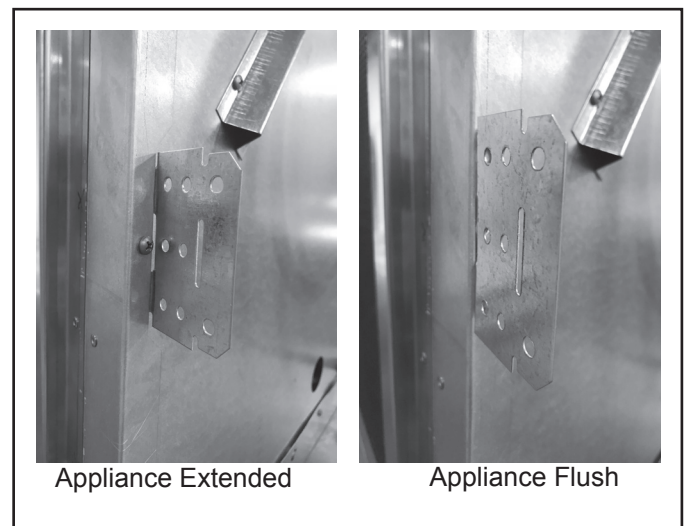

Figure 4.2 Nailing Tab Orientation
**Note:** Nailing tabs are positioned so that when the appliance is installed the face of the appliance will extend approximately 1/2 inch beyond framing materials, allowing for the installation of combustible or non-combustible sheathing up to the sides of the appliance. Nailing tabs may be reversed to allow the face of the appliance to be installed flush with framing and be covered with non-combustible finishing materials. See Figure 4.2.